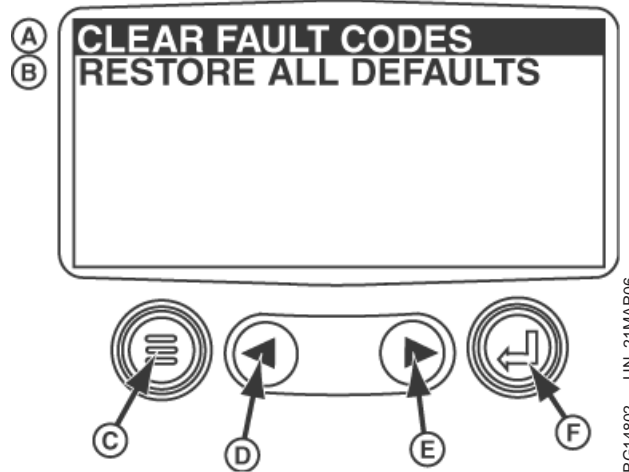

Figure 1. Clear Faults Restore Defaults
2. Turn power on to diagnostic gauge. As soon as screen backlight comes on, simultaneously press and hold menu (C) and enter (F) keys. A menu appears (See figure 1.) on the screen with the following options: "Clear Fault Codes" (A); and, "Restore All Defaults" (B), with "Clear Fault Codes" item highlighted.
3. With "Clear Fault Codes": item highlighted, press enter (F) key.